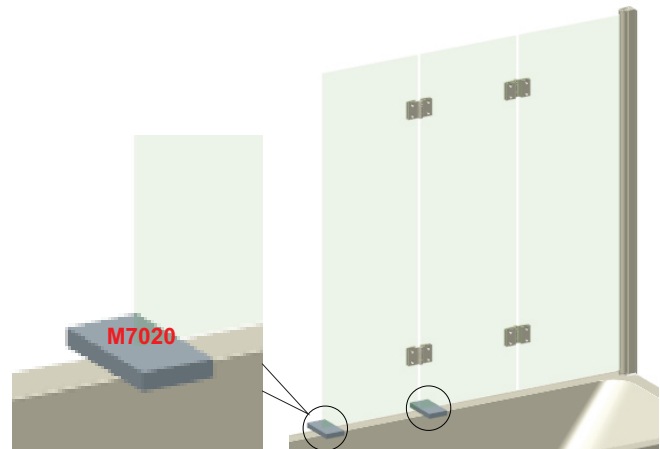

**FIG 3**
3. Ensure rising butt(Fig3/C) is to the bottom ,if not reverse. by loosening screws as in A,B,C. And switch top and bottom as D,E,F. **Fig3**